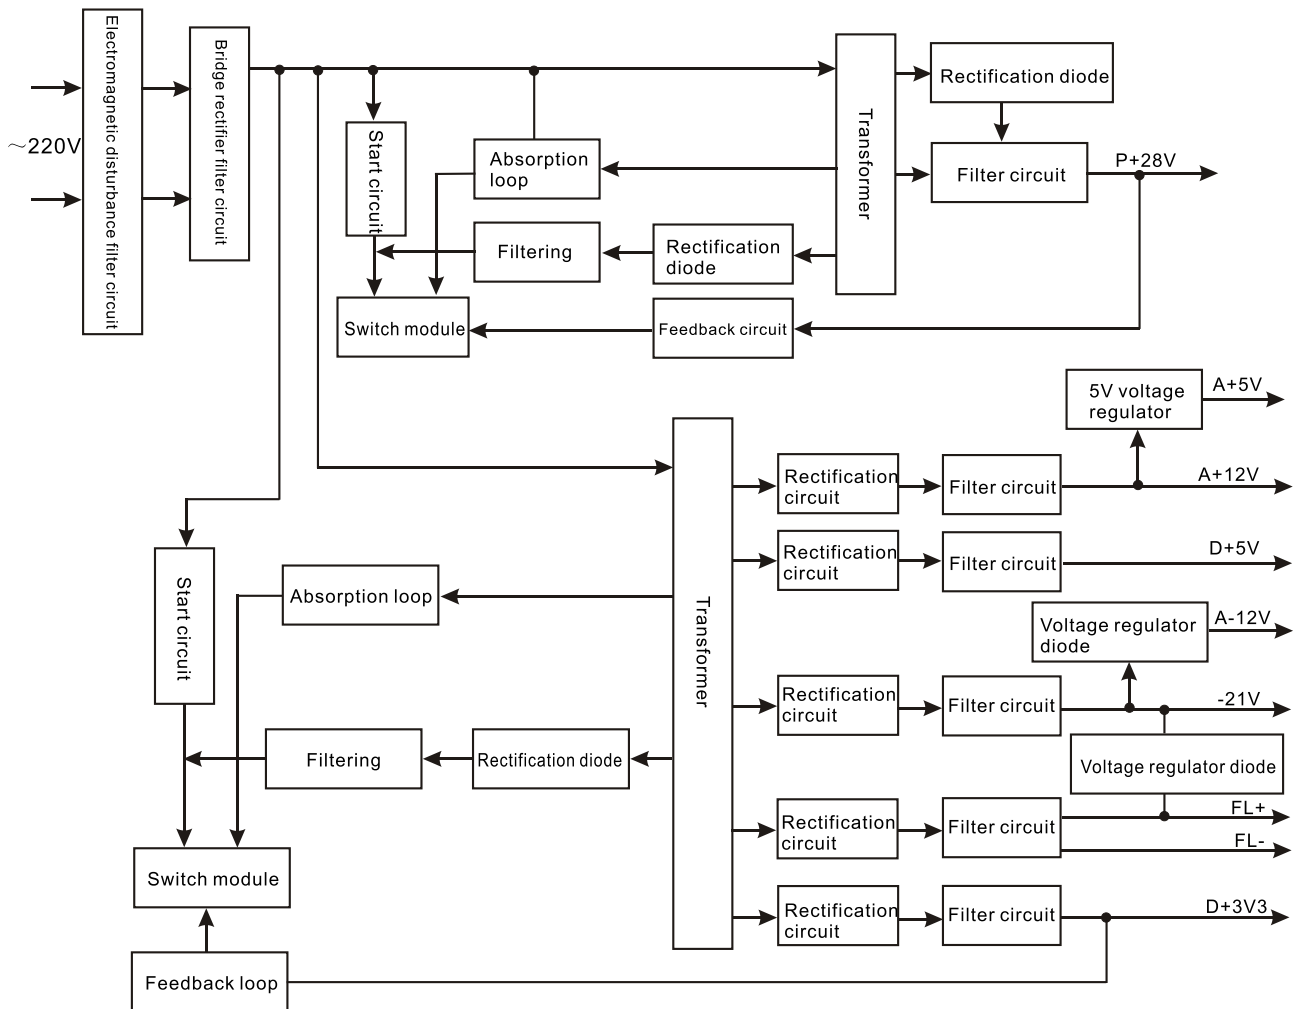

Figure 3.2.1.1 Power supply circuit block diagram
1. Power supply circuit block diagram is shown as the following figure 3.2.1.1: